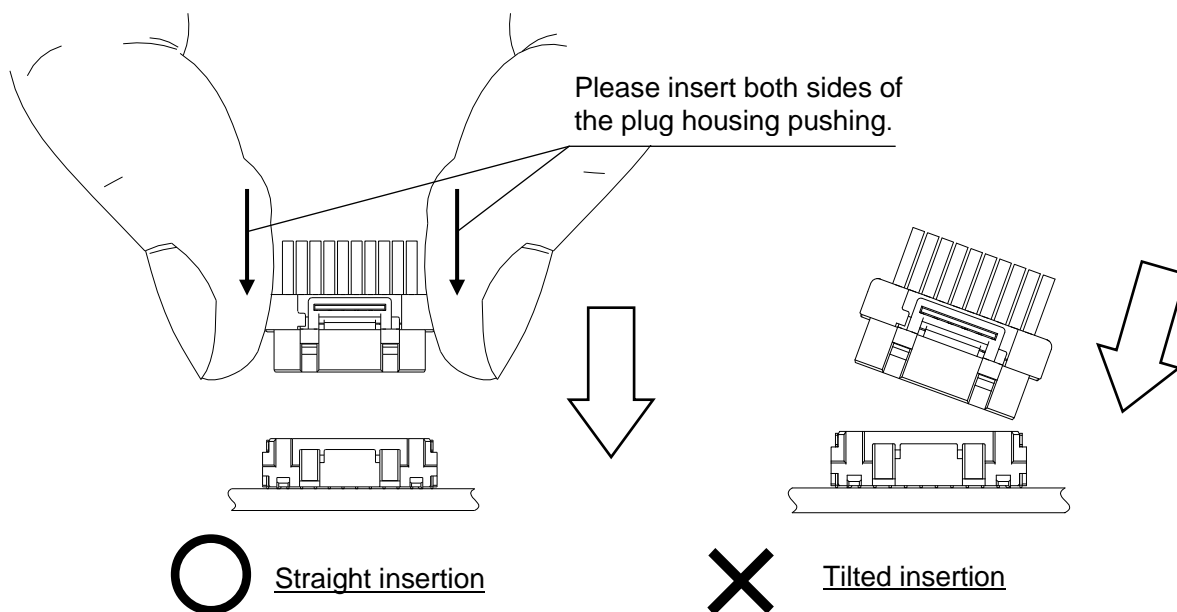

**Fig.8 Packaging view**
② Place the harnesses in the box.
※Please pack the products alternately as described in the figure to prevent too much force on the connectors. (See Figure 8 ①)
※Please locate air stuffing in the very bottom and places where space can be found. (See Figure 8 ②)